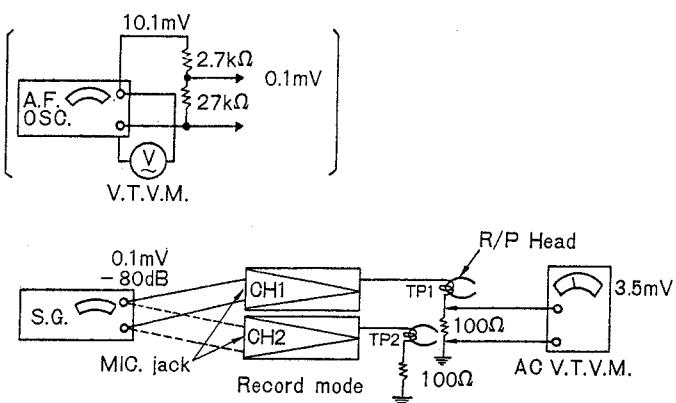
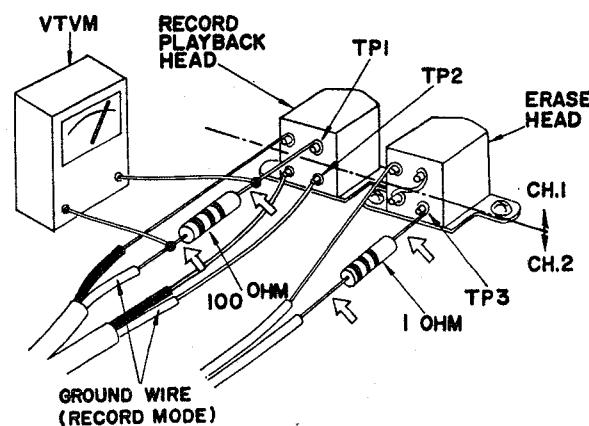
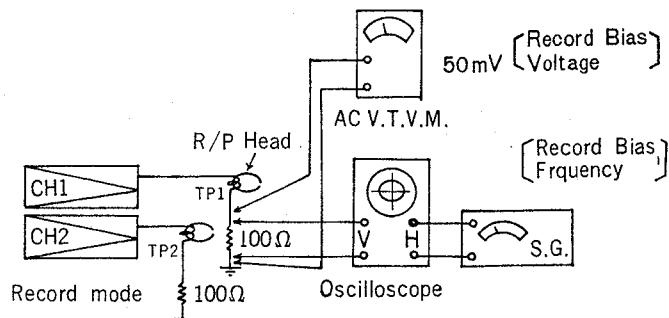
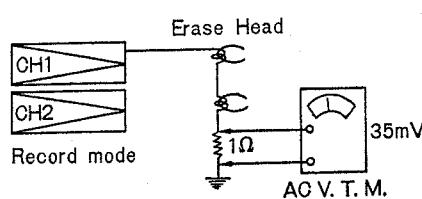

Figure 17
Figure 18
Figure 19
Figure 20
2. RECORD AMPLIFIER SENSITIVITY (Refer to Figure 17 and Schematic Diagram)
Refer to Figure 17 and Figure 18
3. RECORD BIAS VOLTAGE (Refer to Figure 18 and Figure 19)
Refer to Fig. 18 and Fig. 19
(Refer to Figure 19)
1. As shown in Fig. 19 insert a 100Ω Resistor to ground Lead Wire of Record/Playback Head. Connect vertical Axis of Oscilloscope across Resistor. Connect horizontal Axis of Oscilloscope to Output Terminal of Signal Generator.
2. When the recorder is set to "RECORD" mode, connected as above, Lissajou's Figure 19 will appear on the Oscilloscope. Refer to this Figure 19 to check frequency of Bias Oscillator. The standard Frequency is approximately 75~85KHz.
5. ERASE VOLTAGE (Refer to Figure 18 and 20)
Refer to Fig. 18 and Fig. 20